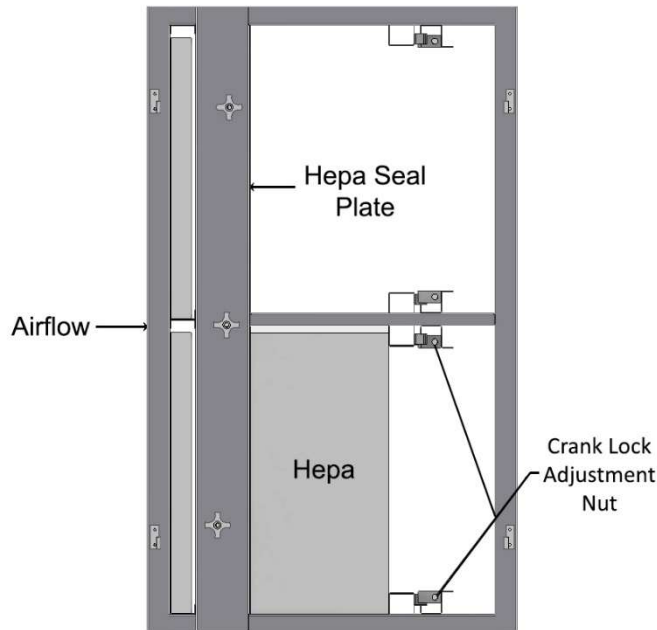

Fig 2a
7. HEPA FILTER INSTALL (CRANK LOCK) refer to Fig 2a
8. HEPA FILTER REMOVAL (CRANK LOCK) refer to Fig 2a